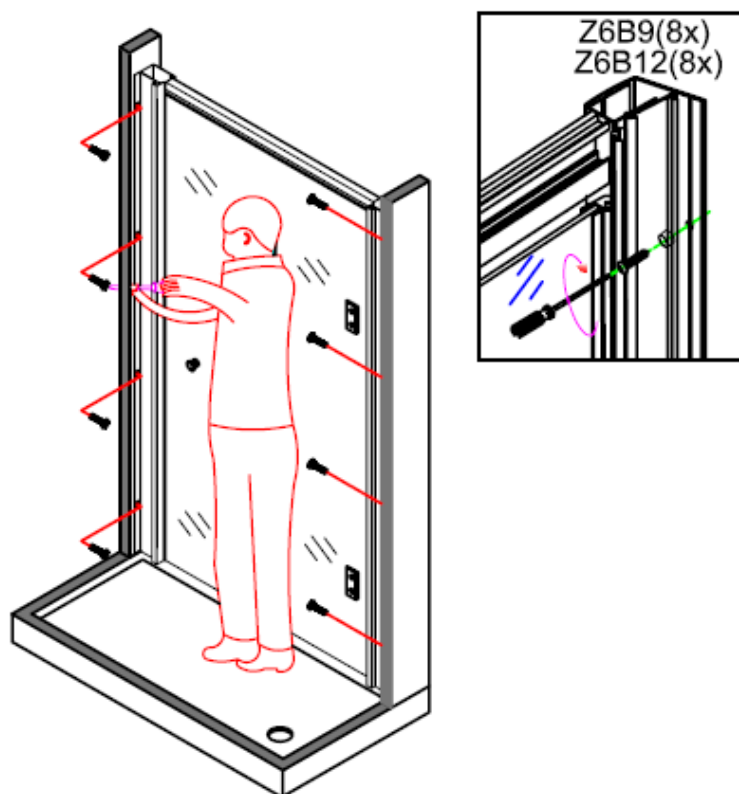

Figure 7
7. Fix the wall profile(Z6B1) to the wall by using screw(Z6B9) and with caps on,as showed in figure 7.